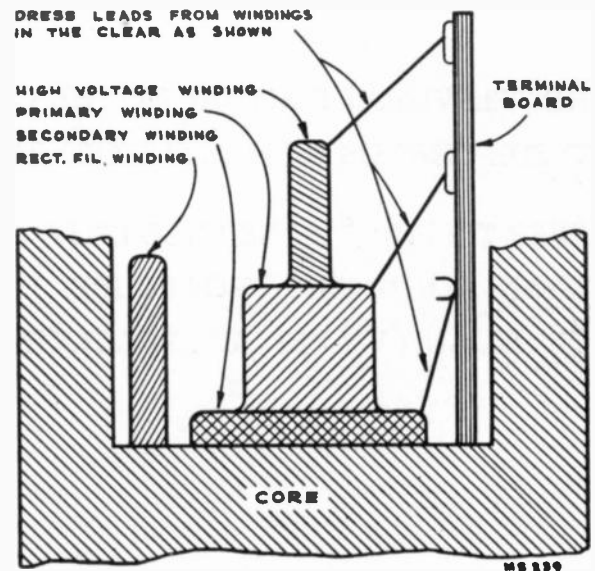

Figure 12--T110 Lead Dress
- Dress T110 winding leads as shown in Figure 12.